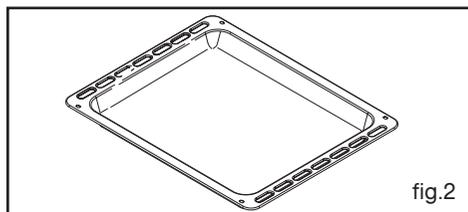

fig.2
• **Plat lèche-frite multi-usages fig.2**